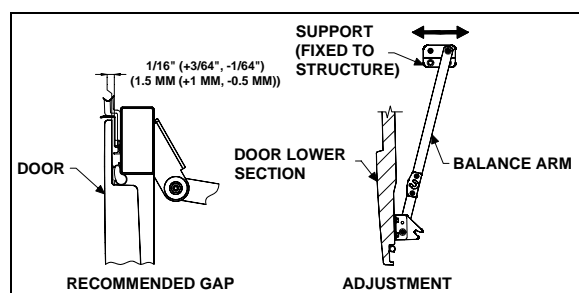

FIGURE 66: BAGGAGE COMPARTMENT DOOR 18071
8. Recheck gap mentioned in step 6. If gap has changed, correct by adjusting arm support fixed to structure. Loosen the bolt supporting the balance arm on door lower section and close the door, gap adjustment will automatically result. Tighten the bolt from inside the compartment (Fig. 66).